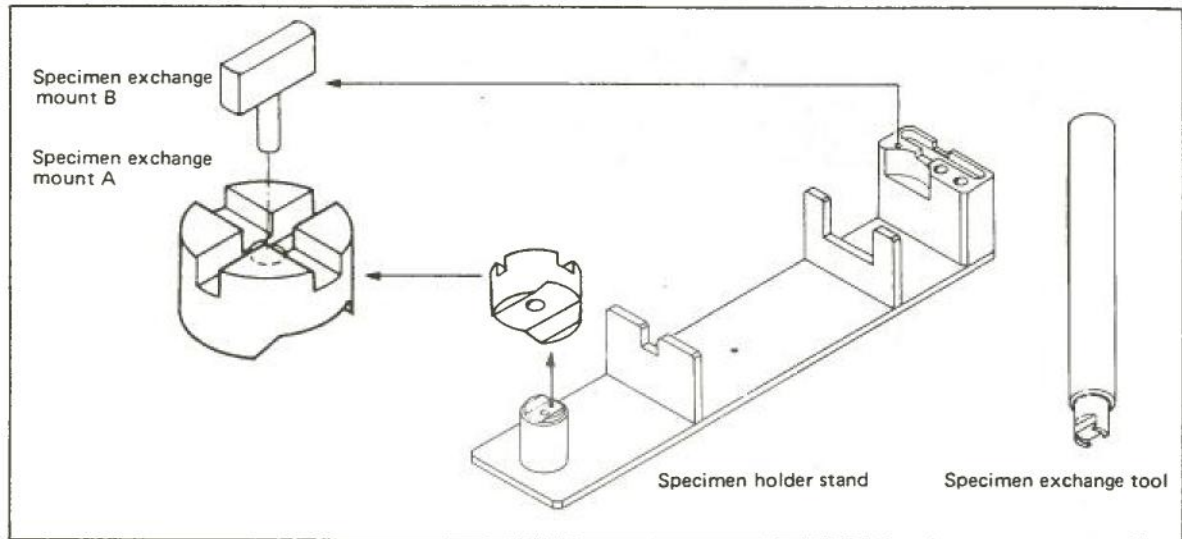

Fig. 4.1 Specimen exchange mounts
1. Remove the specimen holder stand from the specimen holder box and mount specimen exchange mount B on specimen exchange mount A (see Fig. 4.1).